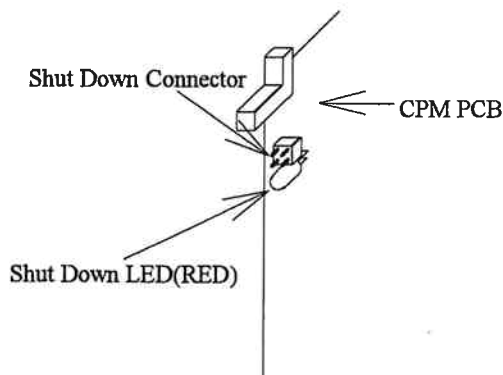

Fig. 3.3.7.3.2-10 Location of the Shut Down LED
- a. While referring to Fig. 3.3.7.3.2-10 and Table 3.3.7.3.2-10, check the Shut Down LED on the CPM PCB in the Logic Box. See "Connection of Shut Down Jumper (INST03-2600)" if the Shut Down LED is not on. (This procedure [1. a.] is not valid for a New Installation.)